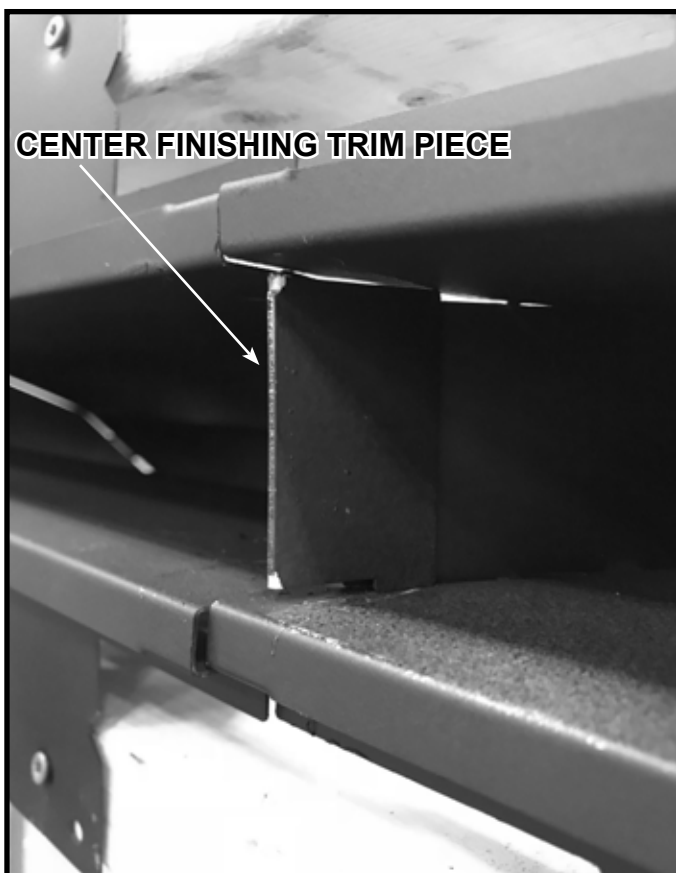

Figure 5.22 Insert Center Finishing Trim Piece
17. Insert the center finishing trim piece between the two plenums. See Figure 5.22 and 5.23.